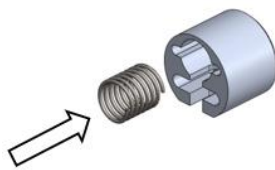

Fig 1
1. Remove the two screws (E) holding the cutter blade mechanism from the Split Peeler.
2. Insert the Spring (C) into the Cap (Fig 1).